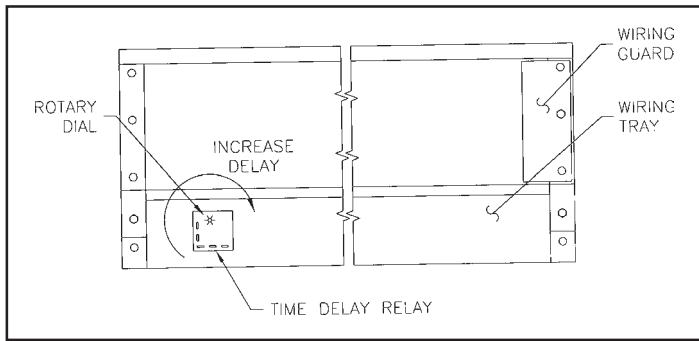

FIGURE 13 - Time Delay Adjustment
- J. If your unit was provided with a Time Delay-Off Relay, it will be factory set at 15 seconds. If a longer delay-off is desired, adjust the rotary dial clockwise with a small screwdriver to preferred time setting. Each hashmark stands for 60 seconds with a maximum setting of up to 300 seconds. **See Figure 13.**